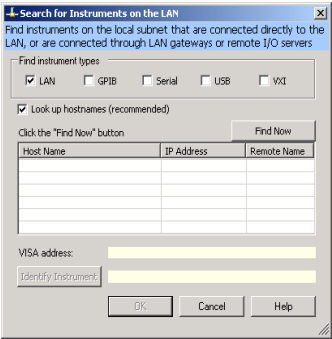

Figure 7 Search for Instruments on the LAN Dialog Box
- 3 When the *Search for instruments on the LAN* dialog box appears (as shown in Figure 7), leave **LAN** selected, and click **Find Now**.